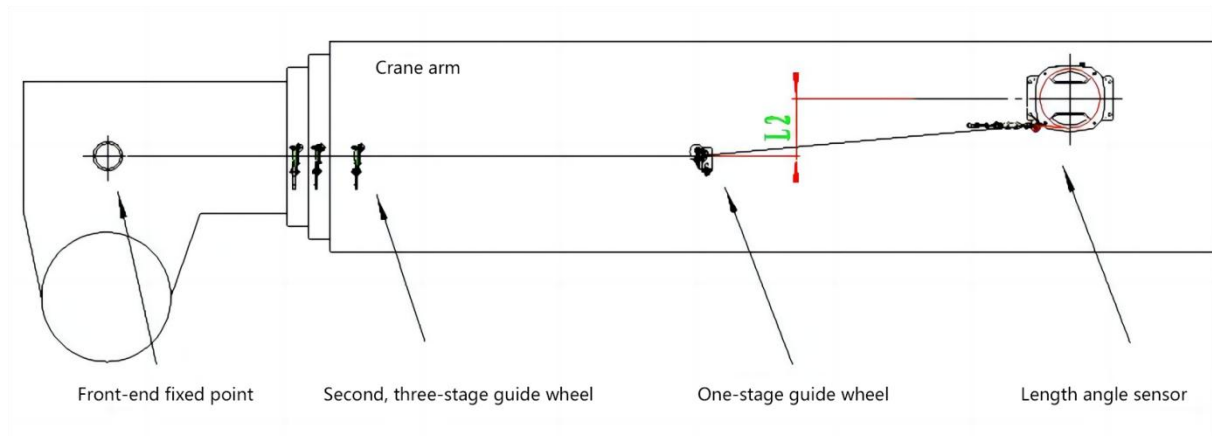

Figure 4.3-9
(2) A guide wheel plays the role of compressing the measuring length line, should make the center of the first level guide wheel is located above the center line of the sensor, that is, the first level guide wheel vertical size L2 should meet the following figure. Figure 4.3-8 is applicable to the upper line and Figure 4.3-9 is applicable to the lower line.